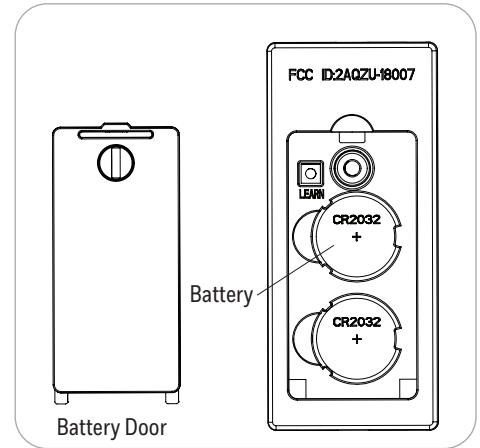

Figure 5.12
12. Remove the battery door from the back of the remote using a flat-head screwdriver (not included). Insert the two CR2032 batteries into the remote; ensure the positive pole of the batteries face up (as pictured) and then replace the battery door. Press the HIGH SPEED button to ensure the LED indicator illuminates and the fan turns on (Figure 5.12).